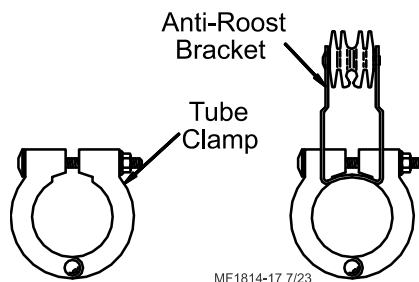
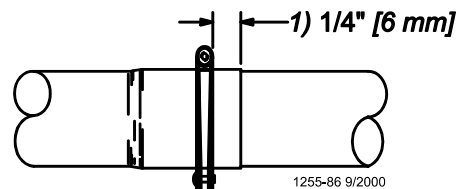

Figure 24. Tube Clamp and Anti-Roost Bracket
Figure 25. Tube Joint Connection
3. Place a Tube Clamp Assembly or Clamp/Anti-Roost Bracket at each joint. **Figure 24** shows the standard clamp and Clamp/Anti-Roost Bracket. Make sure each tube fits as far as possible into the belled end of the next tube. the outlet holes **must point down**. Install tube clamps as shown in **Figure 25.**
- make sure clamp is located, as shown in **Figure 25.**